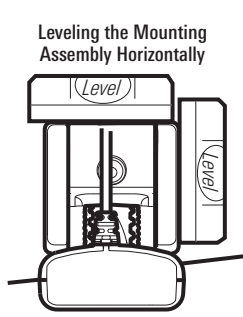

Figure 18
9. Continue to adjust the transducer assembly until the bracket is also level from port to starboard (horizontally level as you look at the transducer from behind the boat). (Figure 18)